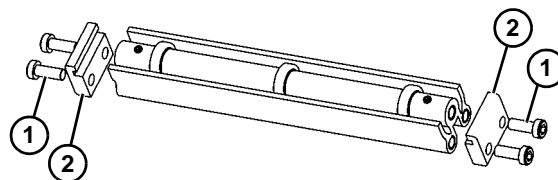

Figure 20
1. Locate return rollers. Exploded view shown in (**Figure 20**).
2. Remove screws (**Figure 20, item 1**) and clips (**Figure 20, item 2**) from roller assembly.